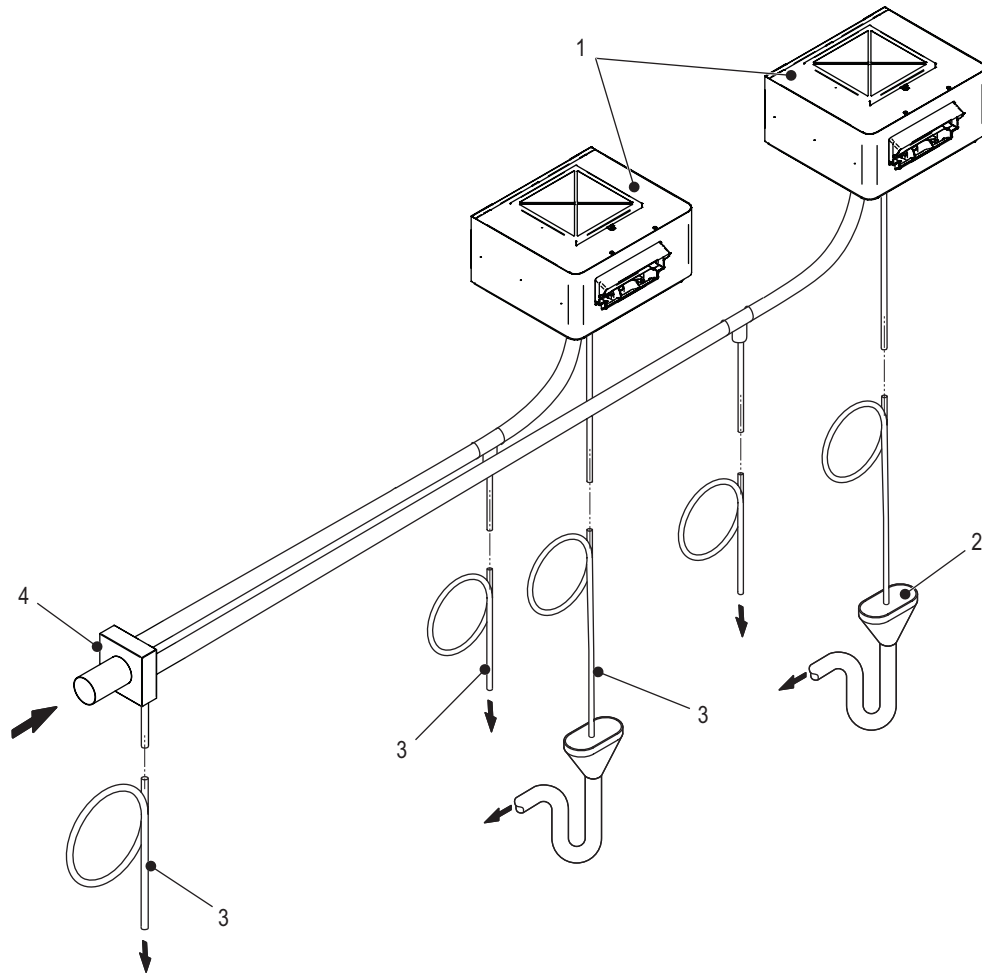

Figure 5: Typical Installation of Multiple Blower Packs with Condair GS Humidifier
In addition, multiple blower packs can also be used remotely with Condair GS 195/260 humidifiers with the aid of an adapter. Refer to Figure 5. Contact your Condair representative for additional details.
- For Condair GS humidifiers use an adapter to distribute the steam to more than one blower pack – refer to Figure 5 on page 17. For details of steam lines for Condair GS humidifiers contact your Condair representative.